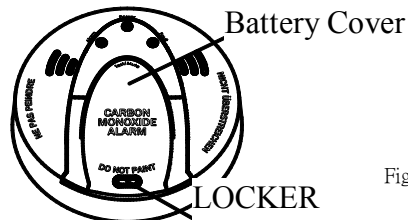

Figure 3.
- 1.Gently press the transparent locker ( see figure 3 as below) and flip open the battery cover to expose the battery compartment.